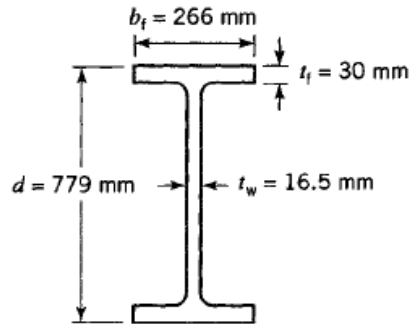

Fig.3
5. The nominal dimensions of a steel wide-flange section (W760x220) are shown in Fig.3. The beam is subjected to a twisting moment $T=5000\text{ N-m}$.